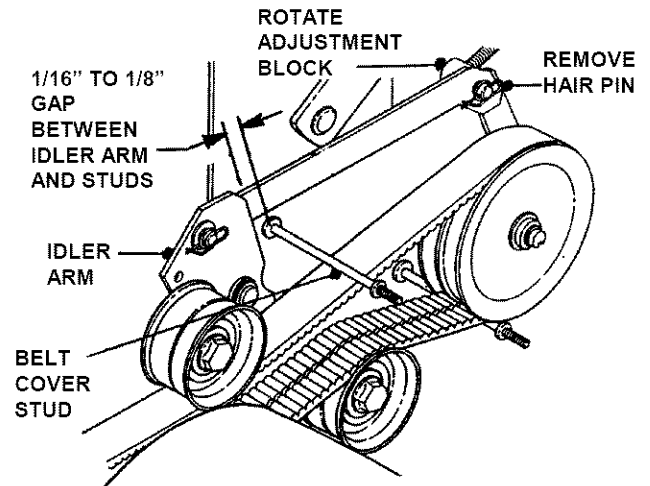

FIGURE 5.2
4. Remove the hairpins from the traction rod adjustment blocks and remove the adjustment blocks from the traction links on each side of the mower. See Figure 5.2.